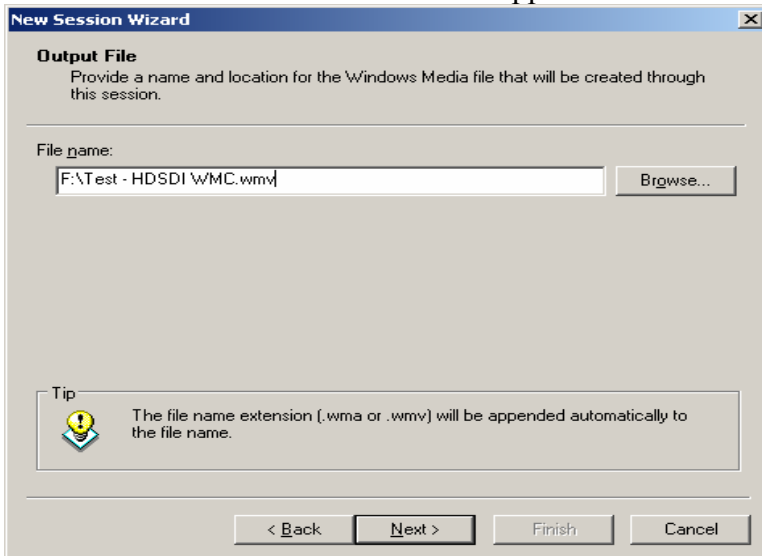

Figure 5.8 Creating capture file
- Create a file in the disk for the application to save the result to, click “Next” (**Fig 5.8**)
Note: Any changes to the created session (existing) can be made via the Properties button available on the main window. (More information is available in section 5.2.3). The received file is saved to disk (location as mentioned in Fig 5.8) as a WMV file